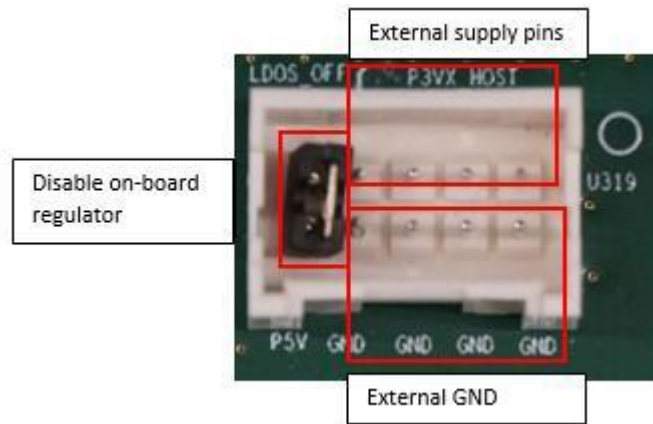

Figure 1: External Power Source
- Apply external 3.3 V at P3VX_HOST pins of U319 connector, as shown in Figure 1.